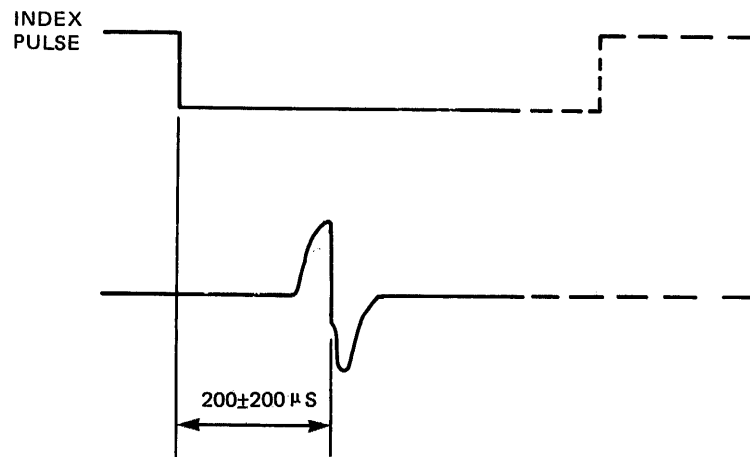

Figure 5-5 Index Alignment Waveform
- d. Observe the timing between the trailing edge of the index pulse and the first peak of the read waveforms (see Figure 5-5). It should be  $200 \mu\text{s} \pm 200 \mu\text{s}$ .